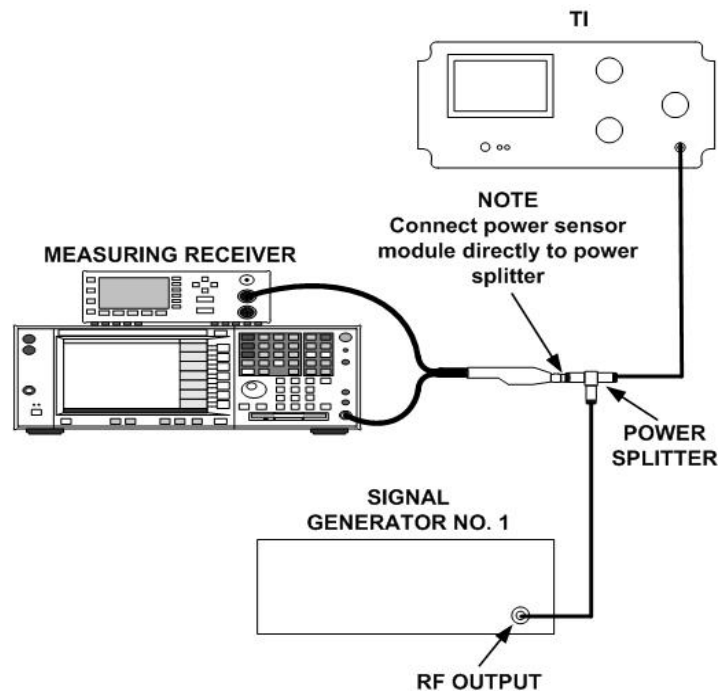

Figure 8. Frequency response setup.
- (9) Reduce synthesizer/level generator output to minimum and disconnect synthesizer/level generator **OUTPUT 50Ω** from TI **RF INPUT 50Ω**.
- (10) Zero and calibrate the measuring receiver power sensor module.
- (11) Connect equipment as shown in figure 8 below.